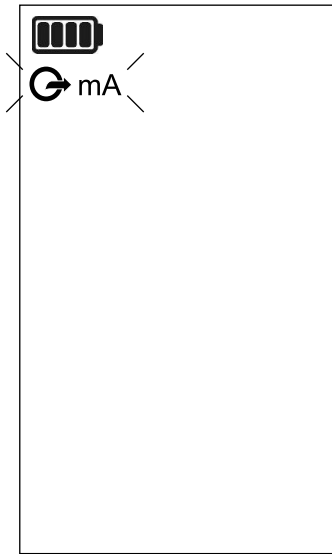

Figure 2-3: Typical Opening Screen
1. To energize the Calibrator, push the **Power** button until the screen operates. It will normally operate the buzzer, show the UPS4E text then show a typical opening screen. See Figure 2-3. If this is the first use of the Calibrator after fitting new batteries, it will ask you to enter the date and time. See “First Use - Date and Time”.